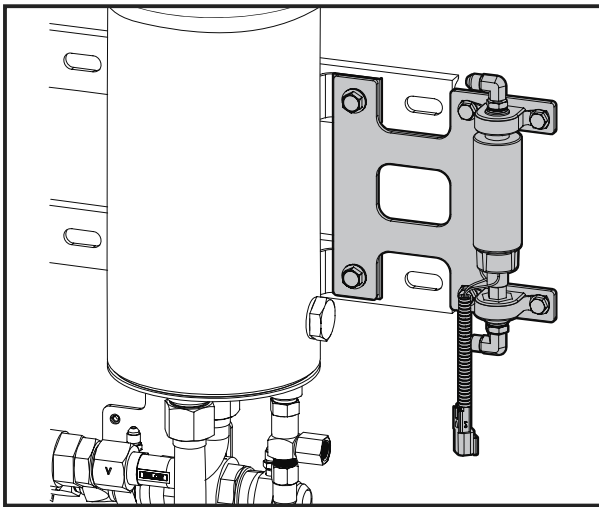

Figure 1 - Mounting the Primer Pump Assembly on the Bracket
1. Mount the Primer Pump Assembly on the bracket of the Sea Pro unit. It should be bolted to the main bracket using the two 3/8" (9.5 mm) grade 8 short bolts provided, as shown in Figure 1. Torque to 15-30 ft-lb (20.4-40.7 N•m).